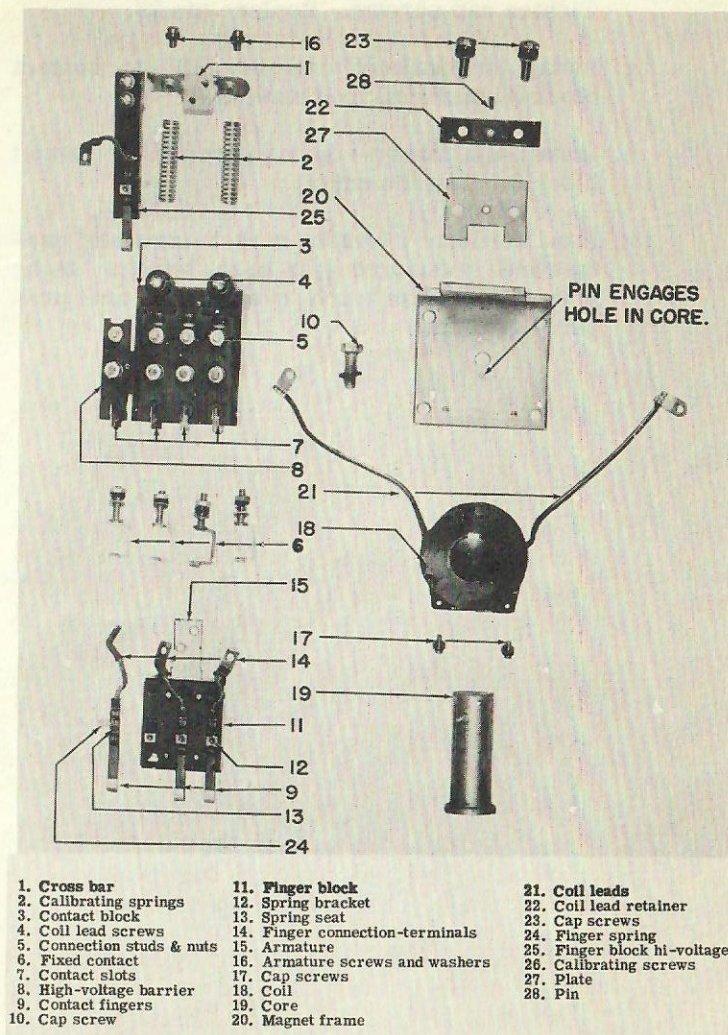

Fig. 2-20
See Fig. 2-20
(3) Remove armature and finger-block assembly.
(4) Holding moving finger compression spring 24 and slide moving contact fingers 9 out of finger block 11.
f. To remove operating coil - See Fig. 2-20:
(1) Remove hex-head cap screw 10 that holds core 19 to magnet frame 20.
(2) Remove two small screws 17 holding coil 18 to base of relay magnet frame.
(3) Lift coil 18 from core 19.
### 3. REASSEMBLY - See Fig. 2-20